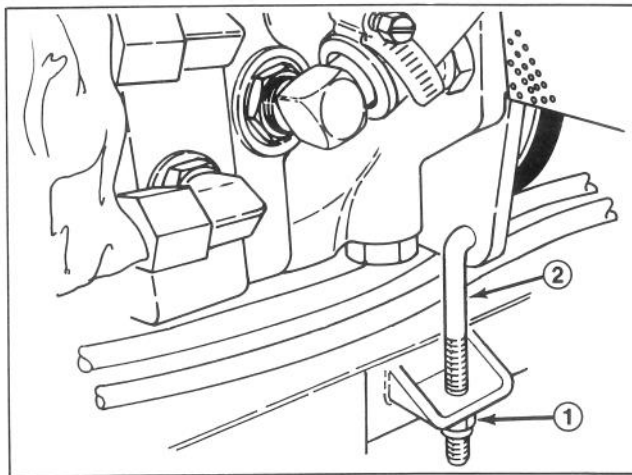

Figure 37
- A. Tighten nut on adjustment rod (Fig. 37) until desired belt tension is attained.